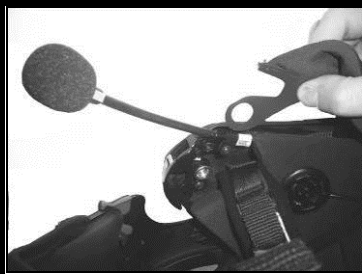

Fig. 35
- Secure the neck roll (**left side**), being careful to slide the neck roll plastic ring behind the microphone, then clicking it in the press stud. (Fig. 35)